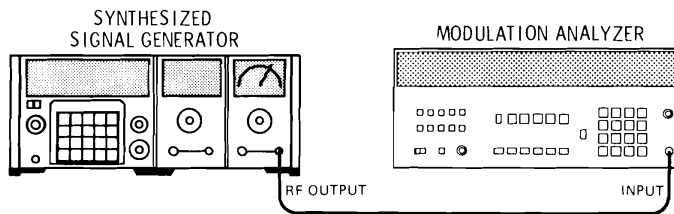

Figure 4-14. Incidental AM Test Setup
1. Connect the equipment as shown in Figure 4-14.